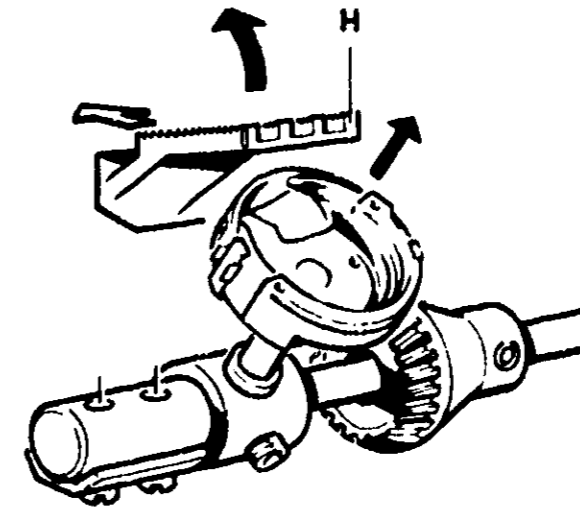

FIGURE 38
- Lift and push back feed dog bracket (H) (Figure 38) then remove shuttle hook